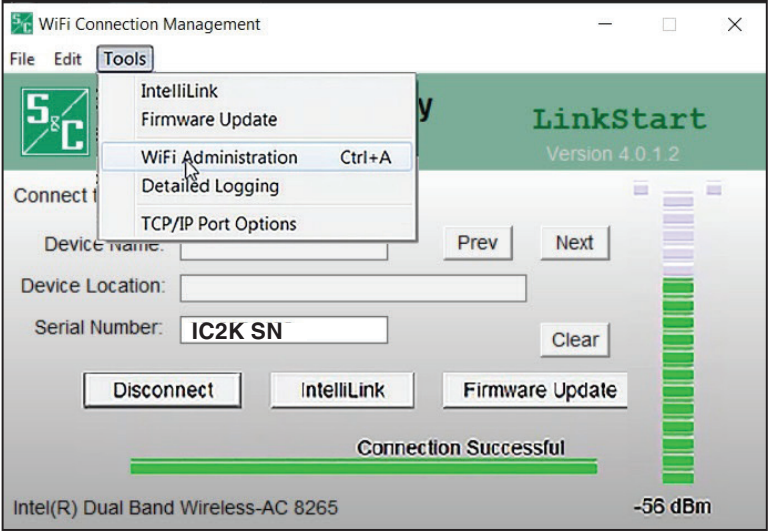

Figure 4. The Wi-Fi Administration entry on the Tools menu.
**STEP 3.** Open the **Tools** menu and click on the **Wi-Fi Administration** option. See Figure 4.